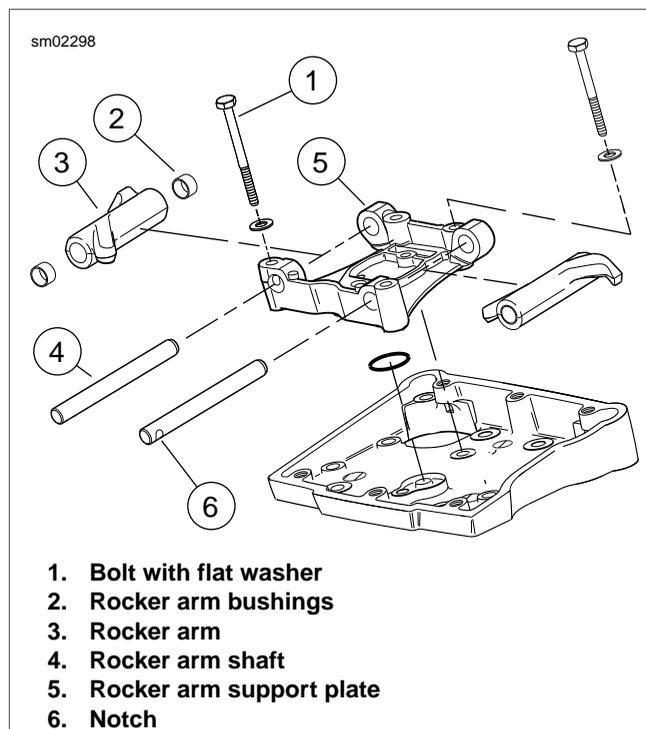

Figure 3-69. Rocker Arm Assembly
1. See Figure 3-69. Remove four bolts with flat washers (1) from the rocker arm support plate (5). The rocker arm shafts (4) on the push rod side (right) are notched to lock them in position.
2. Using a hammer and brass drift, tap left side of rocker arm shafts (4) so that the notched ends exit the rocker arm support plate (5) first. Mark the shafts so that they are installed in their original locations at time of assembly.
2. See Figure 3-69. Check rocker arms (3) for uneven wear or pitting where contact is made with the valve stem tips. Check for concave wear where rocker arms contact the push rod ends. Replace rocker arm if excessive wear is found at either location.
3. Verify that oil holes in rocker arms and rocker arm support plate (5) are clean and open.
4. Inspect rocker arm shafts (4) for scratches, burrs, scoring or excessive wear. Replace as necessary.